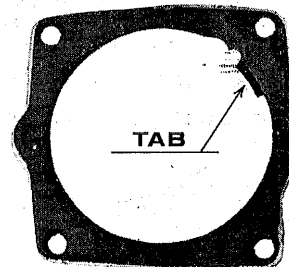

Figure 18
7. Install a new gasket (Figure 18) between exhaust tube and powerhead adaptor plate, making sure protruding tab is positioned over water tube grommet (item 1, Figure 19) located in adaptor plate.